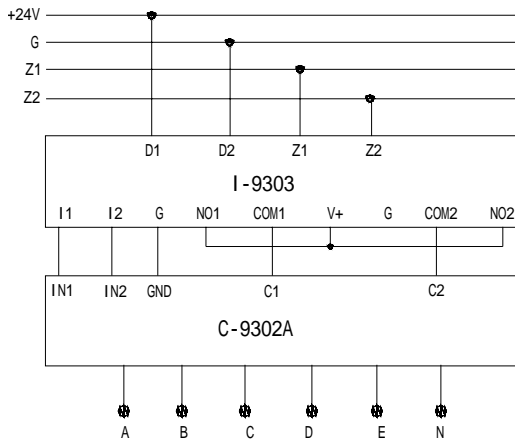

Fig. 4 Connecting with C-9302A module
- ✧ The module should connect with C-9302A when controlling 220VAC devices, see Fig. 4.